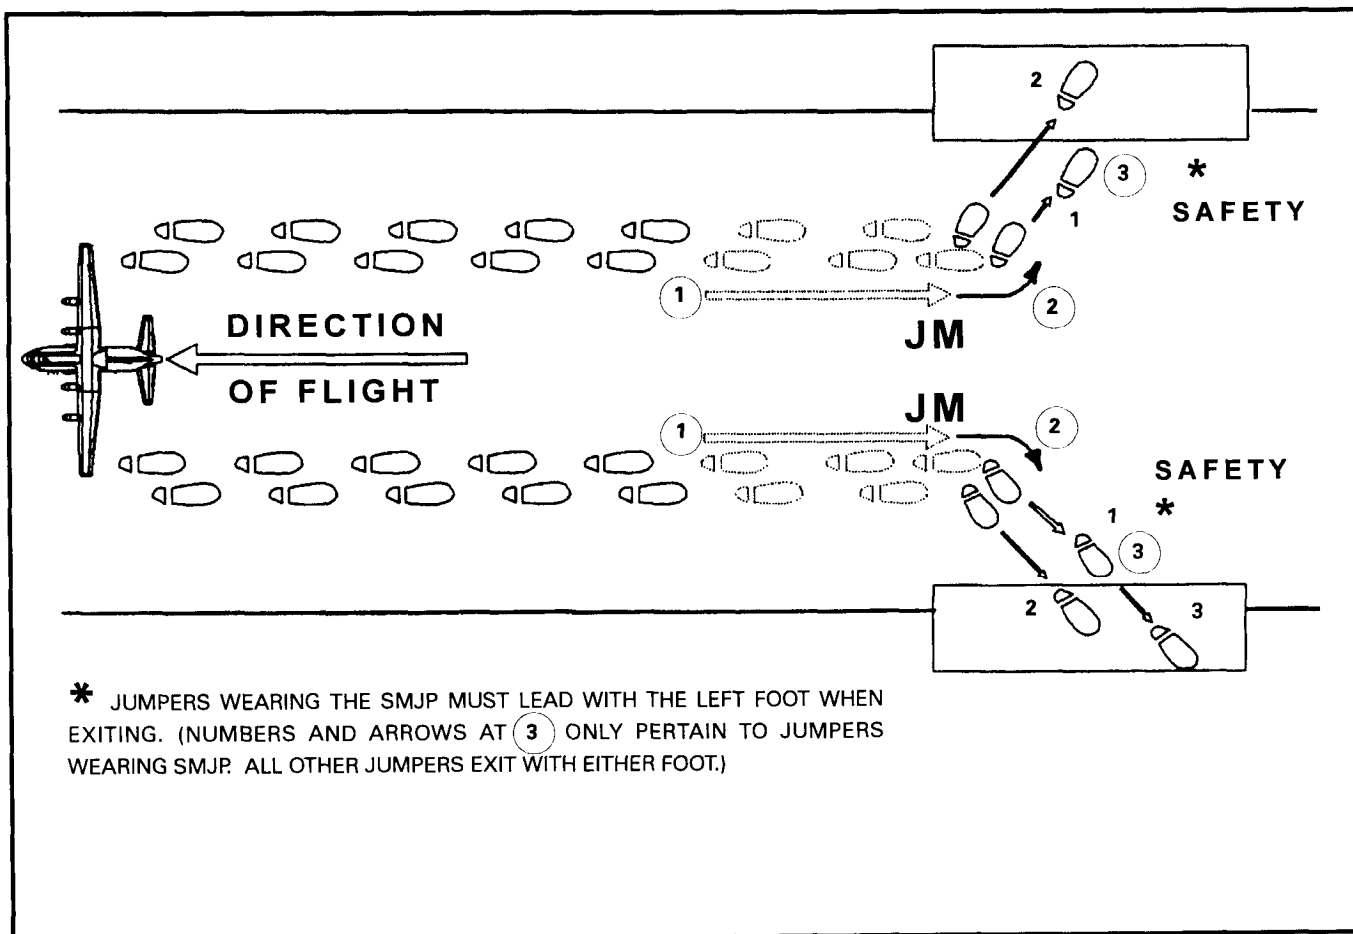

Figure 5-9. Jumper execution upon receiving the command STAND BY.
(1) At this command, parachutist number 1 shuffles toward the door, establishes eye-to-eye contact with the safety, hands the safety his static line, holds his elbows firmly into his sides with his palms on the end of the reserve, executes a half-left or half-right face to the open jump door, and awaits the command GO.
(2) All following parachutists maintain the static line bight and close up behind the preceding parachutist (Figure 5-9, page 5-9).